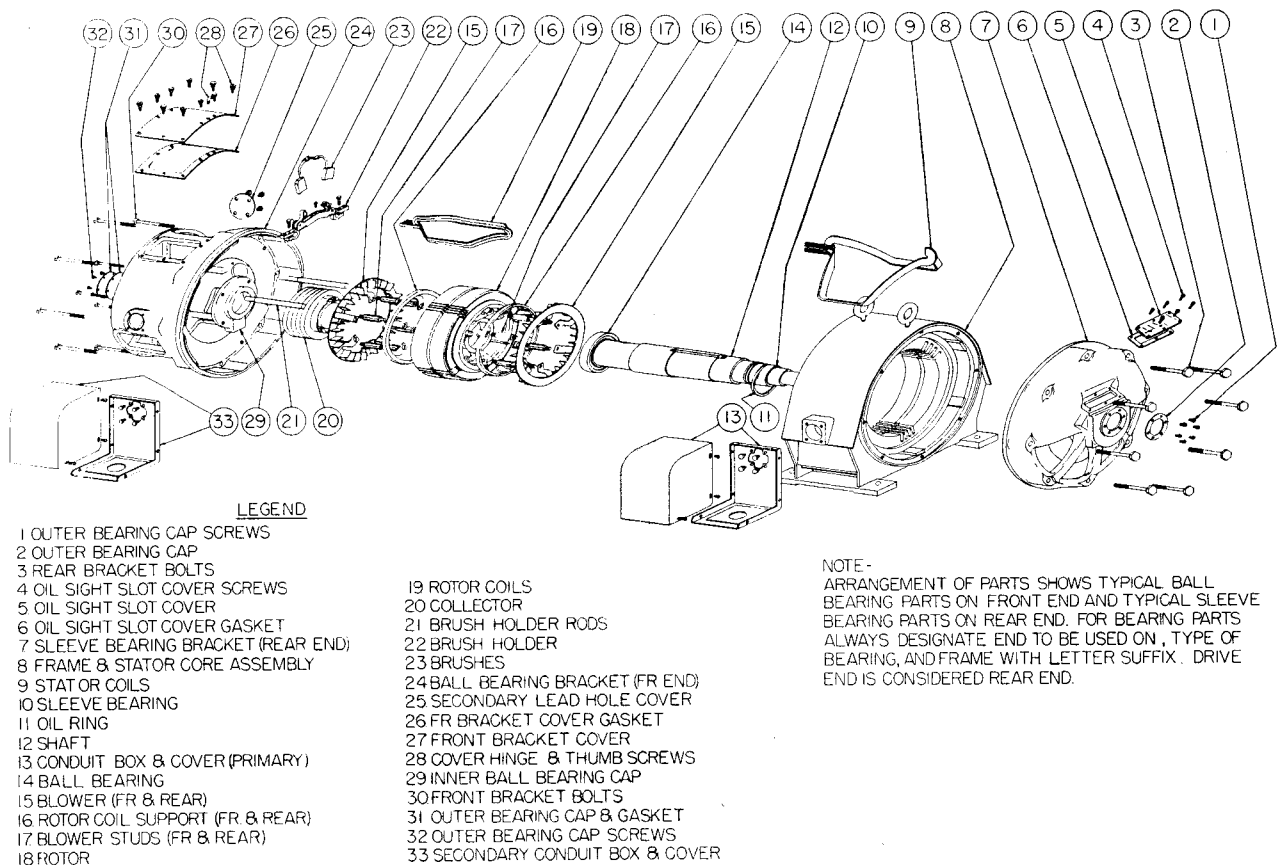

FIG. 3. Arrangement of Parts—Drip-Proof Type CWP Motor (Frames 580-683)
4. Remove bearing locking screw and oil ring keeper. (Item 4 of Fig. 3).